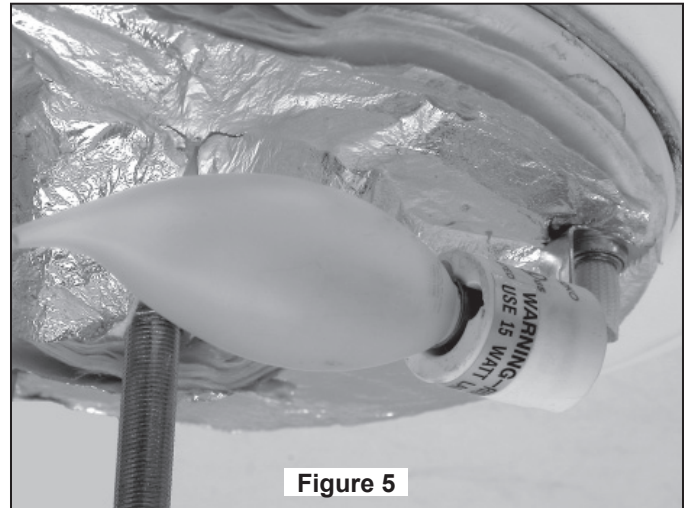

Figure 5
5. Install two Candelabra Bulbs (not included - 15 watts max) in each of the sockets on the Downlight Support Plate Assembly. (Figure 5)